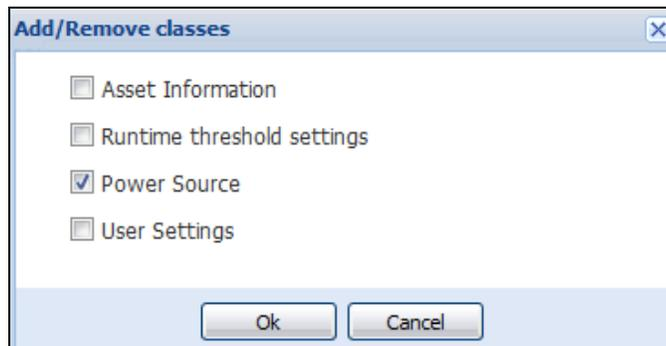

Figure 161. Add/Remove Classes
4. In this example case, select (check) the **Power Source** checkbox to add the Power Source class, and then click **OK** (see Figure 161).